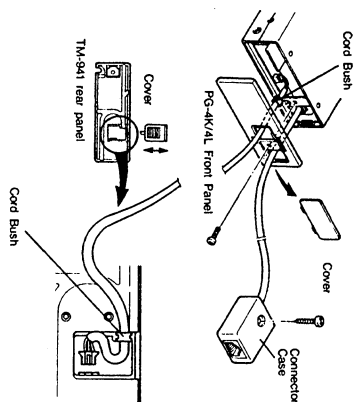
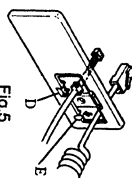

Fig. 4
Fig. 5
4. Remove the cover on the front of the PG-4K/4L front panel, and pass the microphone cable and front panel cable through the opening. (Fig. 4)
5. Connect the PG-4K/4L microphone cable to the microphone connector. Push the connectors together until they click. (Fig. 4)
6. Attach the PG-4K/4L front panel to the transceiver with a binding screw and replace the cover. (Fig. 4)
7. Fit the cord bushing on the panel cable into the front panel (Fig. 5-D), fix the panel cable, and install the cover. (Fig. 4-A)
9. Slide the small cover off of the front panel unit as shown in the accompanying illustration. (Fig. 4-B) Gently lift up on the cable near the grommet to disengage it from the front panel. Then gently pull the cable assembly to left to disconnect the white 4 pin connector. Push the white connector on the PG-4K/4L to right into the front panel socket.
Push the grommet down into its slot, and route the cable as desired in the slots on the rear of the front panel. Replace the cover to complete the cabling. (Fig. 4-C)